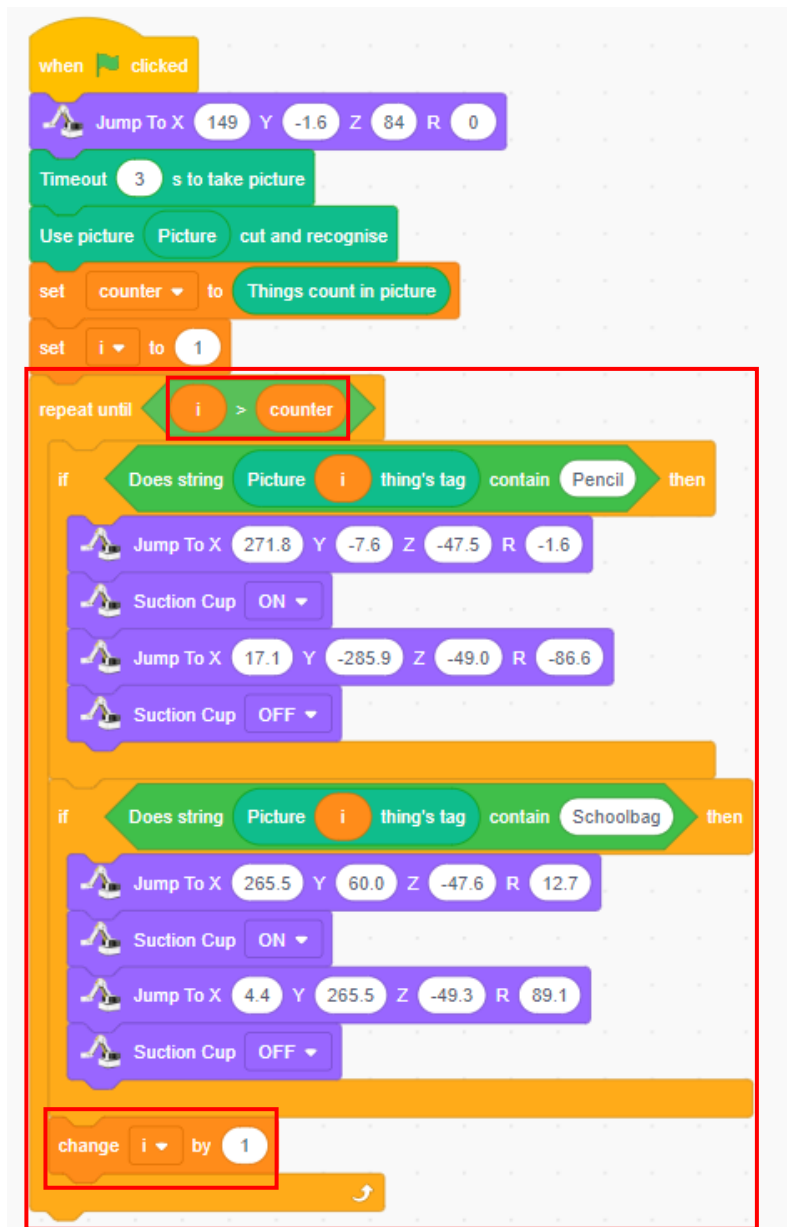

Figure 4.28 Repeating the execution
Step 7: Repeat the above test process until all the segmented items are recognized, as shown in Figure 4.28.